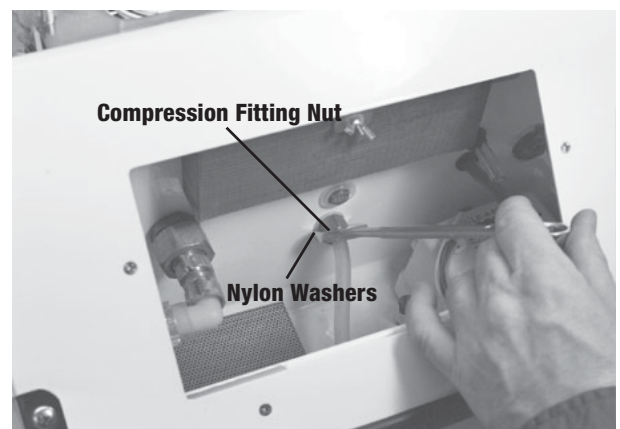

Figure 17
4. Remove compression fitting nut and nylon washers (fig. 17).